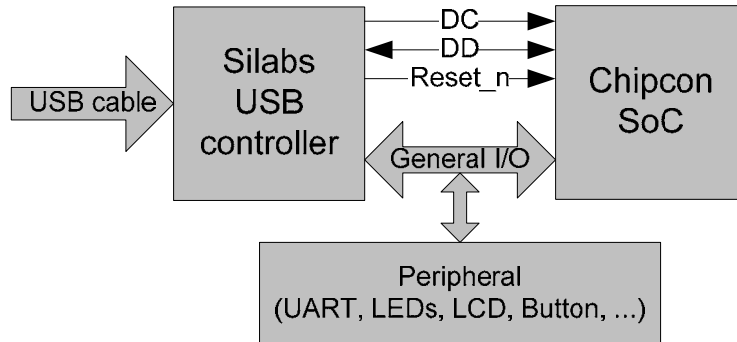

Figure 1: Main components
Figure 1 shows the main components on the SmartRF®04EB. A USB cable from a PC is connected directly to the USB controller. When a SoC evaluation module is plugged into the SmartRF®04EB, the only purpose of the USB controller is to “translate” USB signals to the SoC 2-wire debug interface. This interface includes Debug Clock (DC) and Debug Data (DD). The USB controller also controls the Reset_n line connected to the SoC.